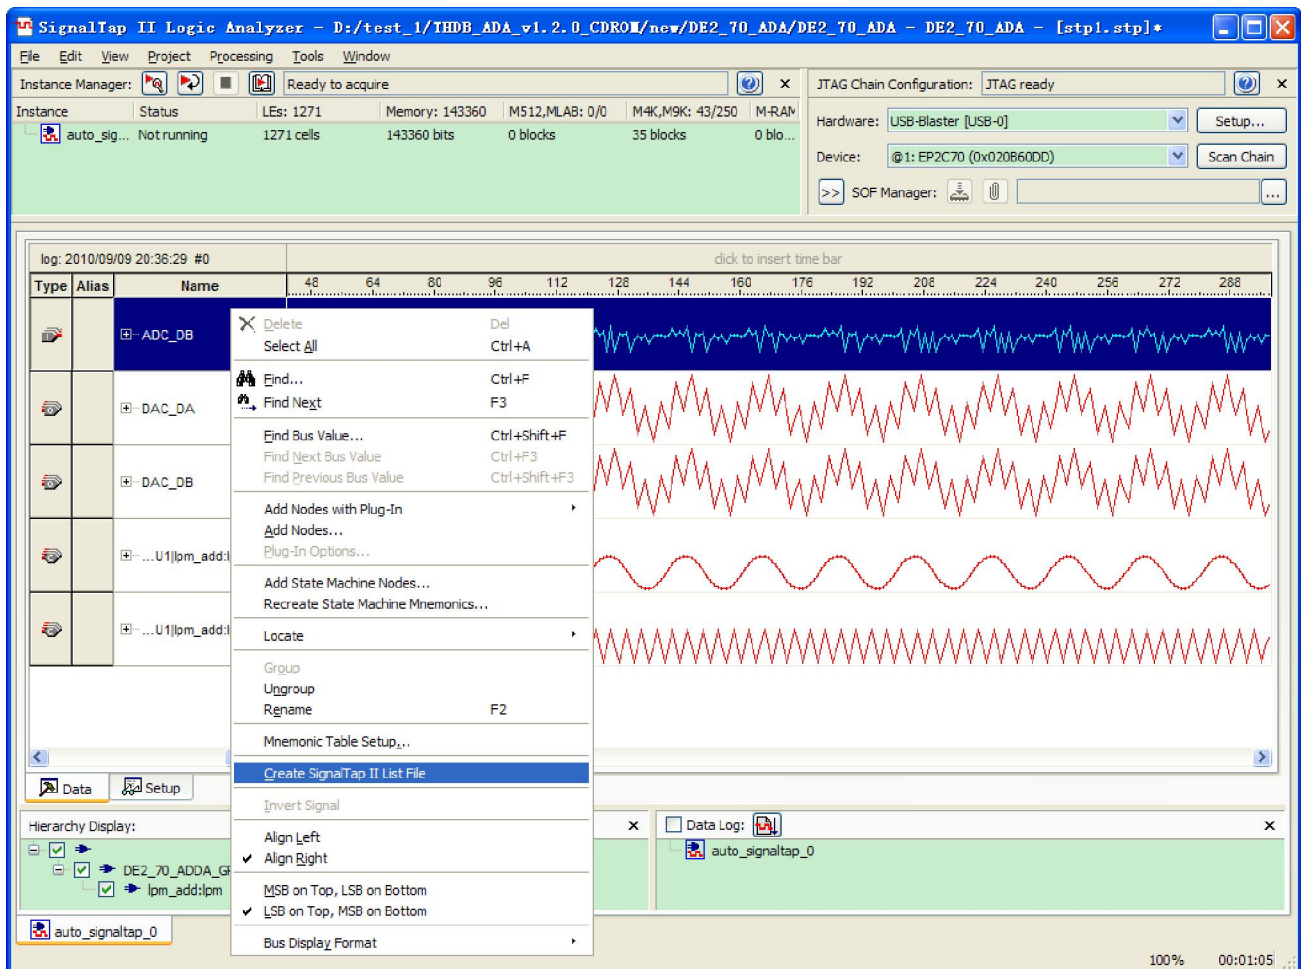

Figure 4.5 Using Quartus 10.0 sp1 SignalTap II to generate the SignalTap II List File
3. Choose File -> Create/Update -> Create SignalTap II List File and the Quartus II will generate the file stp1_auto_signaltap_0.txt in the project directory. **If your Quartus II version is above 9.1, Please click ADC_DB and right click to select "Create SignalTap II List File" for outputting the List file.** As show on the Figure 4.5.